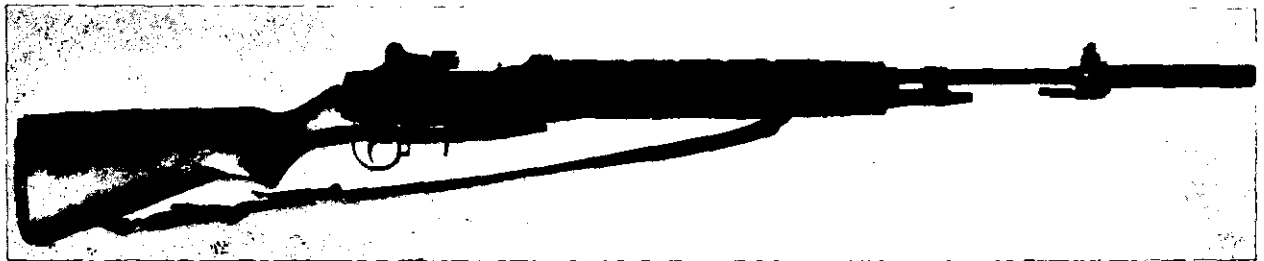

Figure 55. M14 rifle with M76 grenade launcher.
a. Installation. To install the grenade launcher, slide the launcher over the flash suppressor. Push the clip latch rearward securing it to the bayonet lug of the flash suppressor (fig. 55).